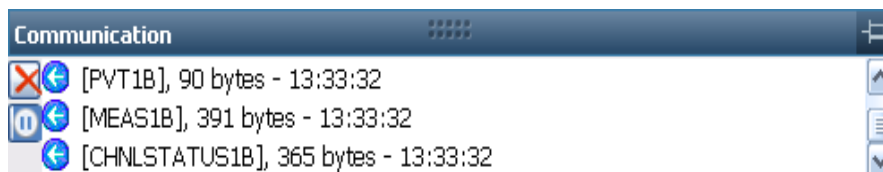

Figure 26: Communication Window – Connection at Incorrect Baud Rate
-  **COM Port Connection:** Scrolling lines designated as “DATA” indicate a connection is established, but the receiver’s baud rate is not correct (see Figure 26).